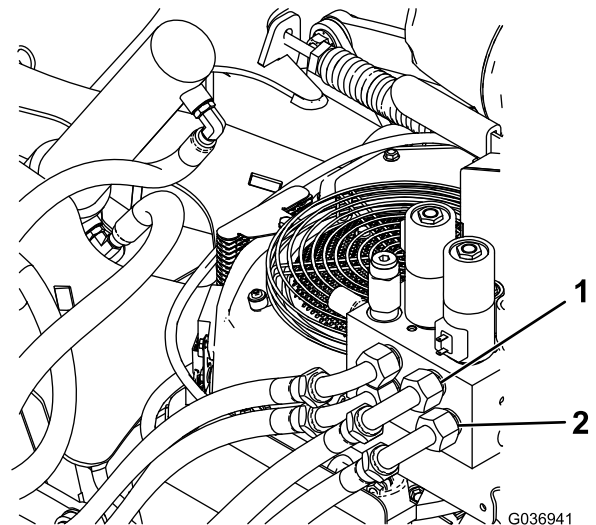

Figure 10
1. Connect the loose end of the hose in the C3 port of the manifold to the 90° fitting on the top of the hydraulic cylinder (Figure 10).
2. Connect the loose end of the hose in the C4 port of the manifold to the 90° fitting on the bottom of the hydraulic cylinder (Figure 10).